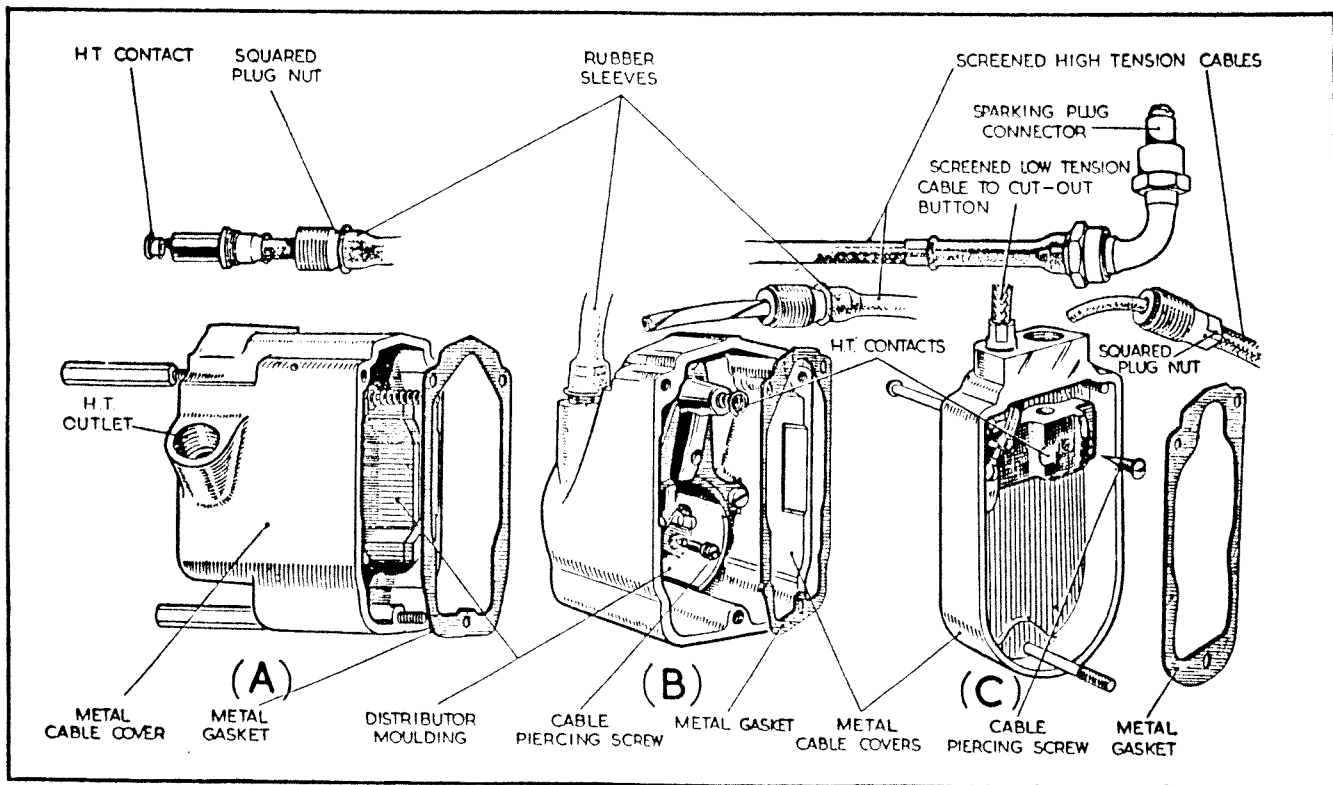

Fig. 5.
Screened cables of the type shown in Fig. 5 (A)
Screened cables of the type shown in Fig. 5 (B) and (C)